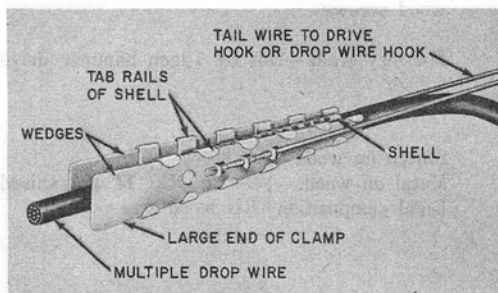

Fig. 2—D Drop Wire Clamp Assembled on Wire
- (1) Interlock the two shells on the wire with the large ends toward the span.
- (2) Press the shells together and slide the wedges into the tab rails on the sides of the shells. Tap the wedges with pliers to seat them firmly.
- (3) Place the tail wire over the drive hook or drop wire hook (Fig. 2).